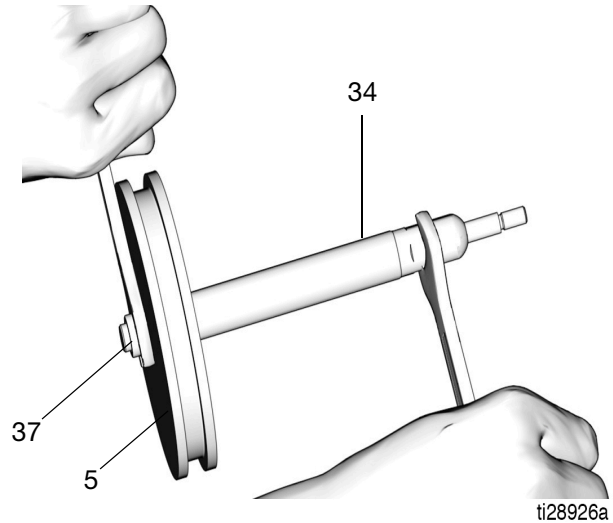

FIG. 31
7. Install the nut (37) over the end of the piston rod (34). Use two wrenches, working in opposite directions to tighten the nut. Secure one open end wrench to flats of piston rod and use the second wrench to tighten the nut, as shown in FIG. 31. Torque nut to 13 to 15 ft-lb (17.6 to 20.3 N•m).